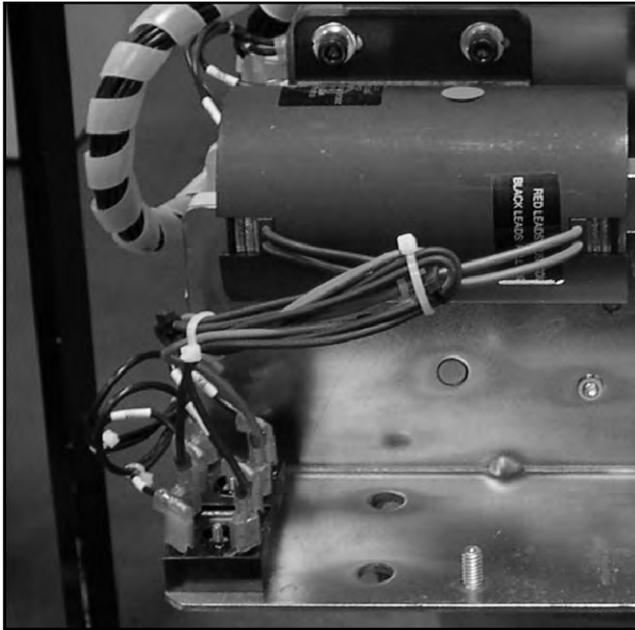

Figure 6-20 Rectifier Fast-On Connectors (contactor shown on the bench)
- Remove the DC fast-on connections from the rectifier terminals. See Figure 6-20.